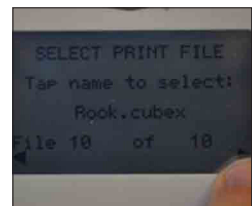

Fig. 46
5. Using the arrows at the bottom of the screen, scroll to the .CUBEX file you wish to print and tap on the file name. Your creation will begin to print. (Fig. 46)